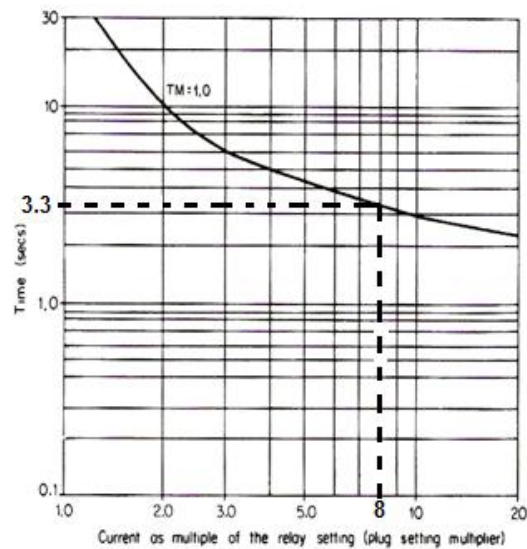

Fig. EX.2-2
2) From the curve of TMS=1(Fig. EX.2-2) , the operating time t_{op} for PSM=8 is 3.3sec (TMS=1) and for TMS=0.6 is 1.92sec ($\frac{0.6}{1.0} \times 3.3$)